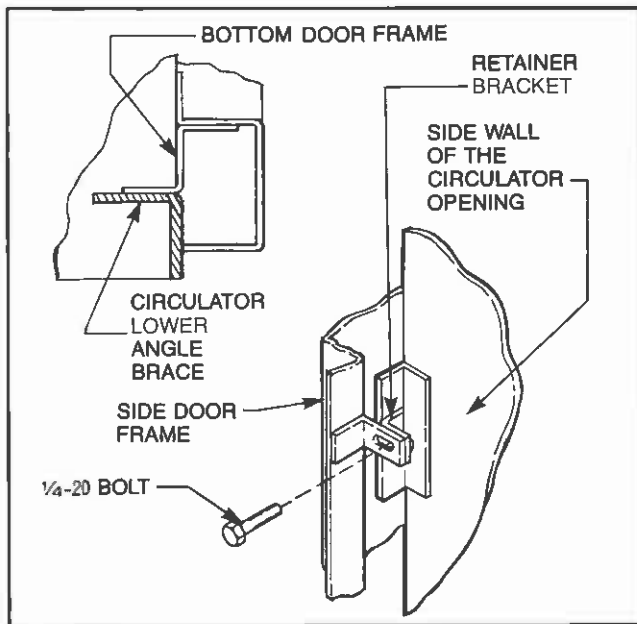

Fig. 12. Use four (4) retainer brackets to secure door assembly to Circulator.
lower angle brace of the Circulator. Attach four (4) retainer brackets as shown in Figure 12, securing door assembly to Circulator. A slot is provided in the door frame mating bracket to allow for adjustment.